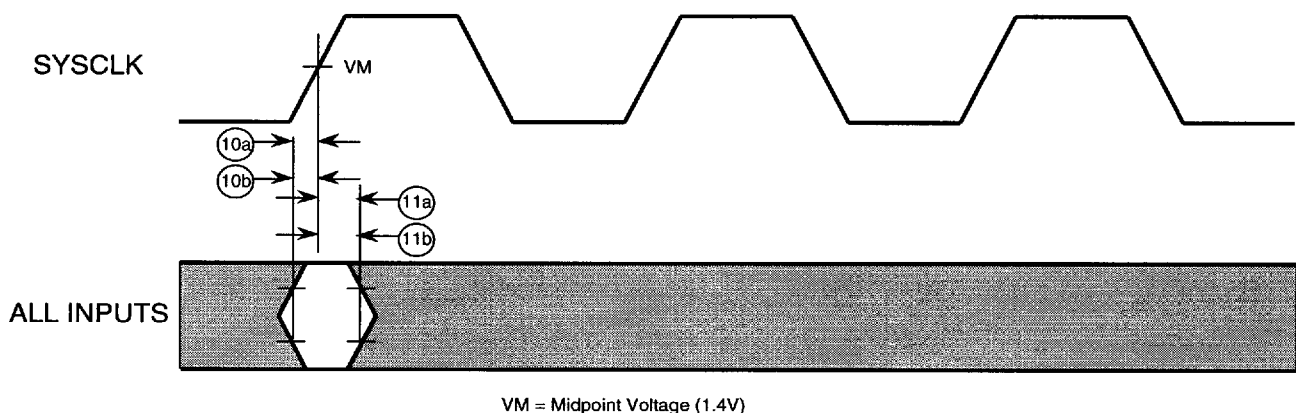
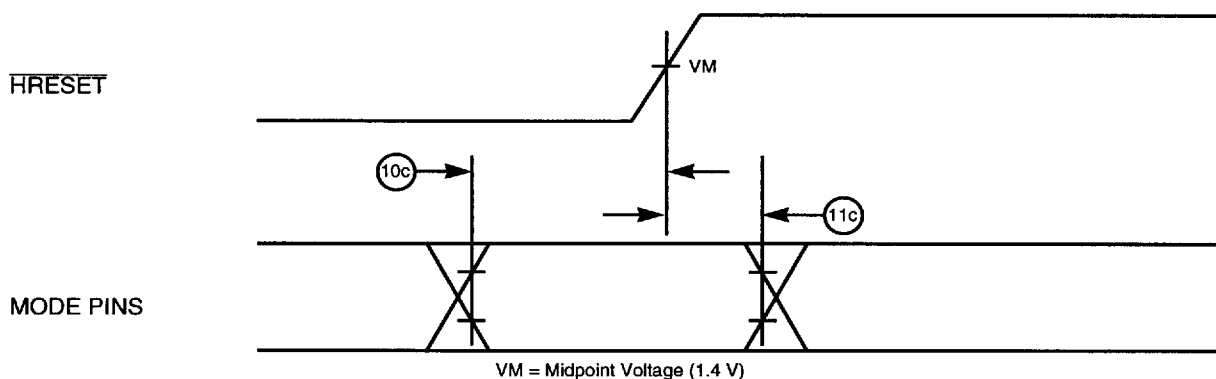

Figure 2. Input Timing Diagram
Figure 3. Mode Select Input Timing Diagram
Table 6 provides the input AC timing specifications for the 603e as defined in Figure 2 and Figure 3. These specifications are for 80 and 100 MHz processor core frequencies
Notes: 1. All input specifications are measured from the TTL level (0.8 or 2.0 V) of the signal in question to the 1.4 V of the rising edge of the input SYSCLK. Both input and output timings are measured at the pin. See Figure 2.
4. The setup and hold time is with respect to the rising edge of $\overline{\text{HRESET}}$. See Figure 3.